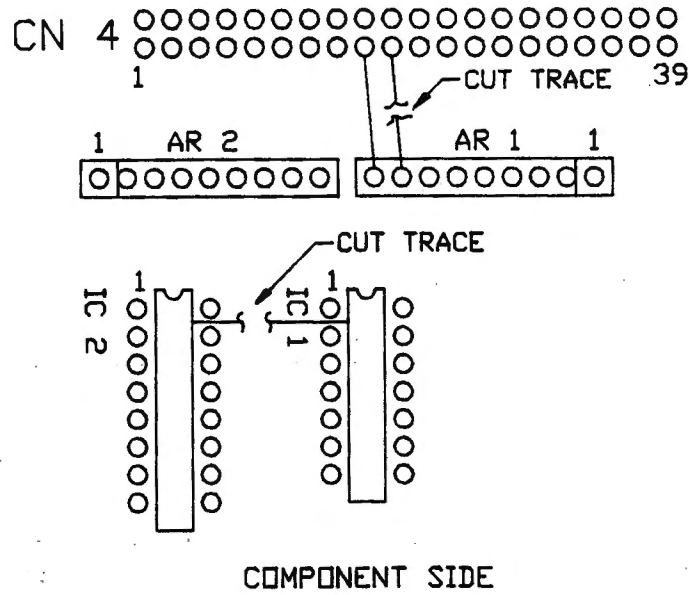

Figure 1
2. Locate CN4 and place the board so that CN4 is to your right and up. On the component side just under CN4 (figure 1) cut the right most trace of the two going from AR1 to the connector CN4.